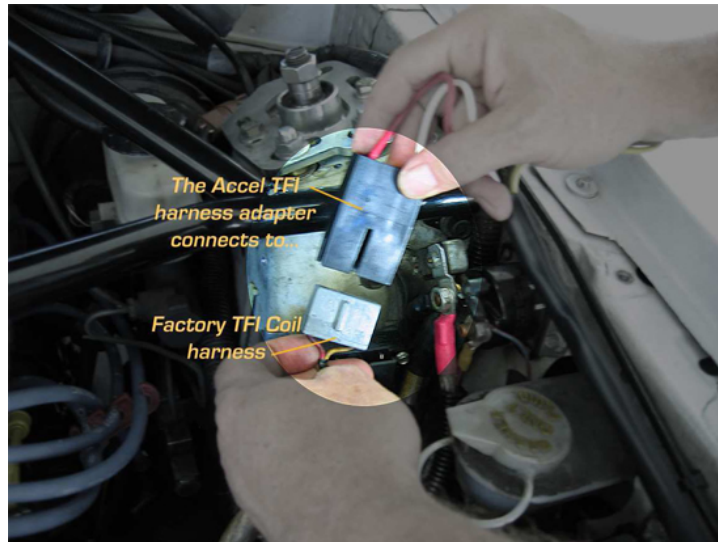

Fig8b
16. Connect the Accel TFI adapter to the Ford factory ignition connector (we moved it aside in step 4). These are 'keyed' one-way connectors which help to eliminate wiring mix-ups. (See: Fig8b) The remaining connector gets plugged into the Accel coil. Again, the keyed connector makes this easy. Double check that all the connectors are completely snapped together firmly.